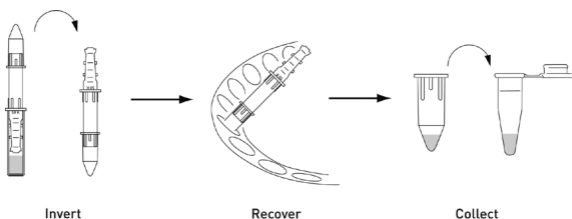

Figure 4. Collection of processed antibody material.
- 3.11 Invert the antibody concentrator into the conical collection tube as shown in Figure 4.
- 5.10 Invert the antibody concentrator into the conical collection tube as shown in Figure 4.